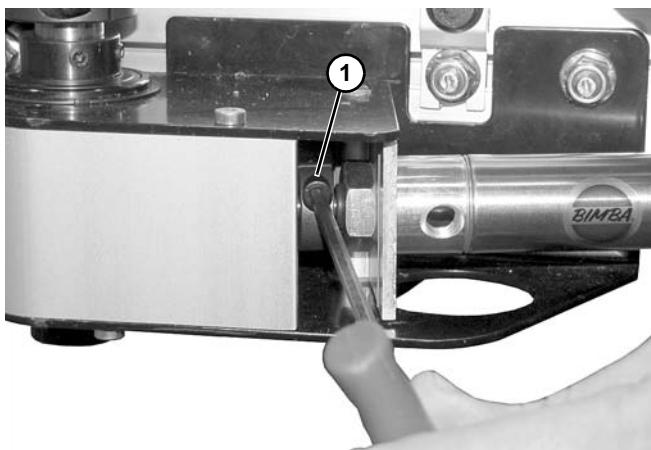

Figure 36
- e. Loosen stop collar (**Figure 36, item 1**) or cylinder.